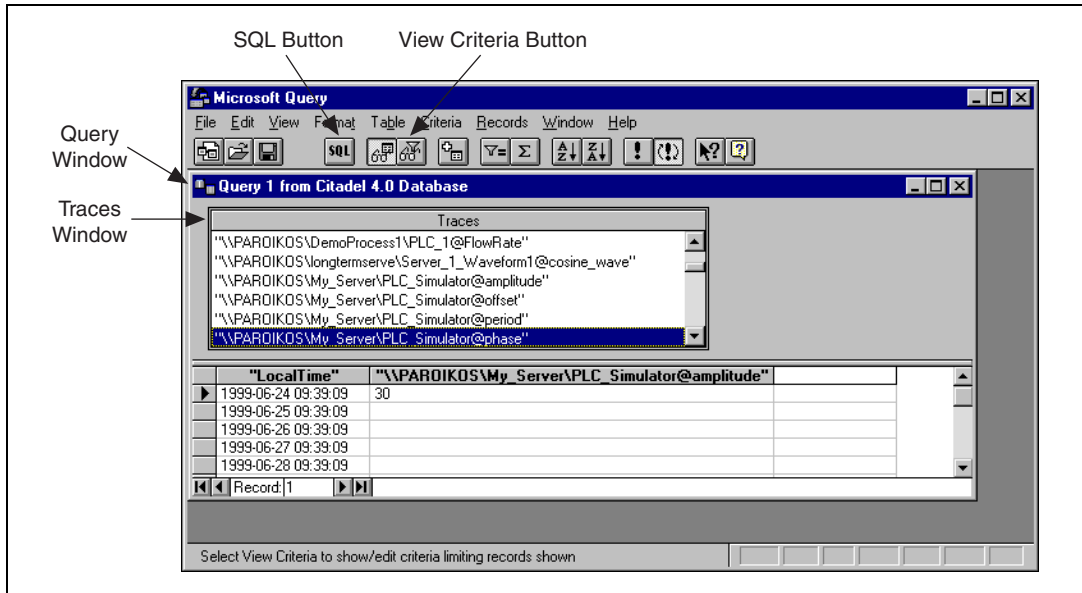

Figure B-1. The Query Window with Traces Table
6. To view a trace, double-click on or drag the field you want to view to a blank column in the data pane. In Figure B-1, `LocalTime` and `"\\PAROIKOS\My_Server\PLC_Simulator@amplitude"` have been dragged down.
- The data set in Figure B-1 was retrieved using no specific criteria, so the ODBC driver used the default. Although there are several ways to specify criteria, this example uses the criteria pane.